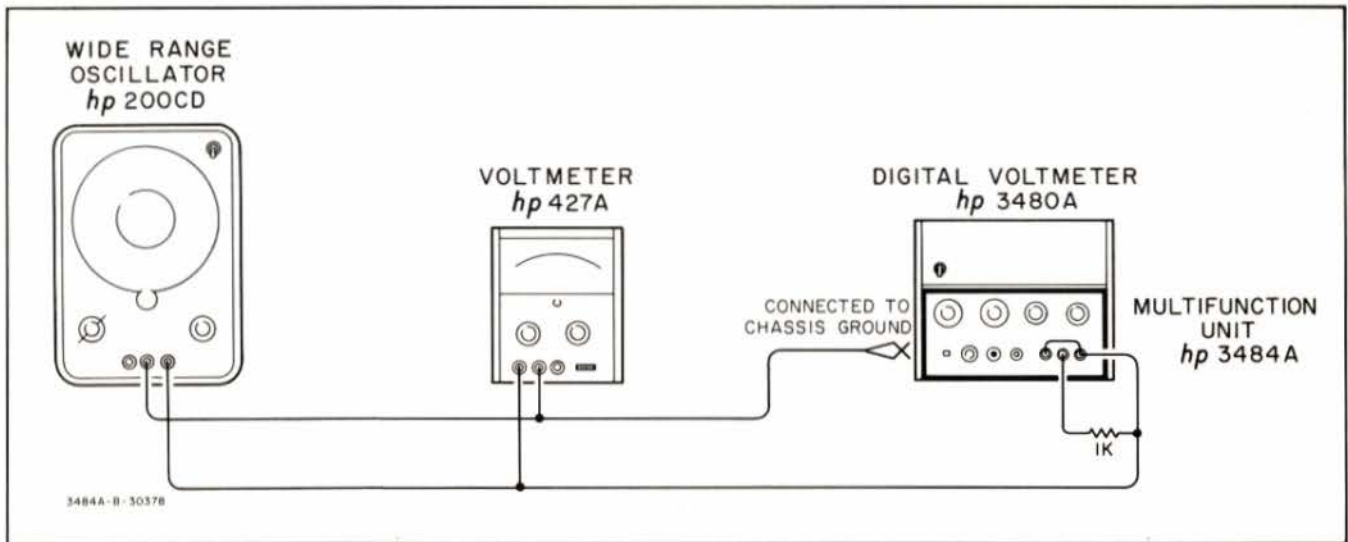

Figure 5-4. AC Common Mode Rejection Check.
- a. Connect a 1 k Ω resistor between 3484A HIGH and LOW terminals, and connect HIGH to GUARD as shown in Figure 5-4.
- c. Connect oscillator output to 3484A HIGH and chassis ground as shown in Figure 5-4. A rear panel mounting screw head makes a good ground connection. Do not use the BCD connector J13 as ground.